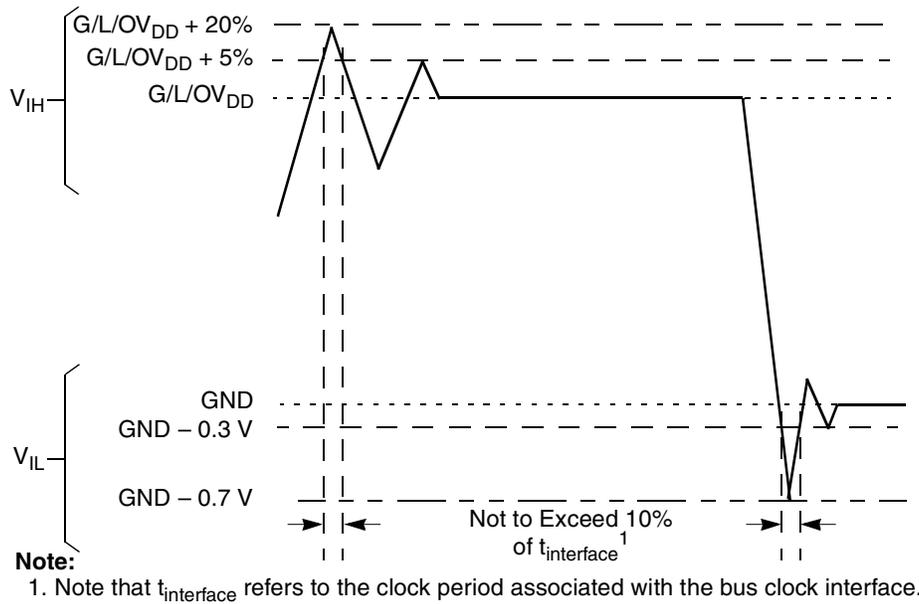

Figure 3. Overshoot/Undershoot Voltage for $G V_{DD}/O V_{DD}/L V_{DD}$
- (M,L,O) V_{IN} and MV_{REF} may overshoot/undershoot to a voltage and for a maximum duration as shown in Figure 3.
Figure 3 shows the overshoot and undershoot voltages at the interfaces of the device.